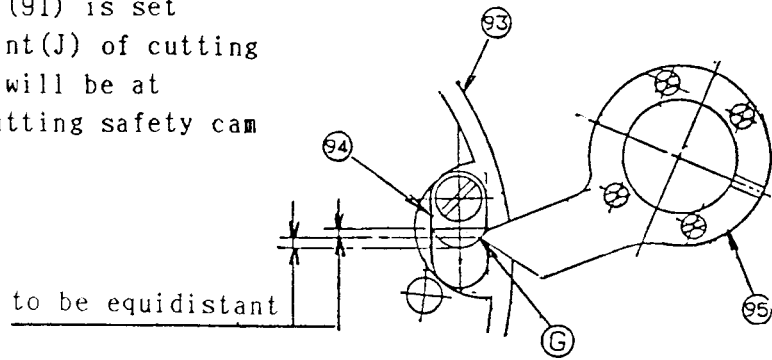

Fig.19
2. To adjust setting of cutting safety cam. (Figs.19 and 20)